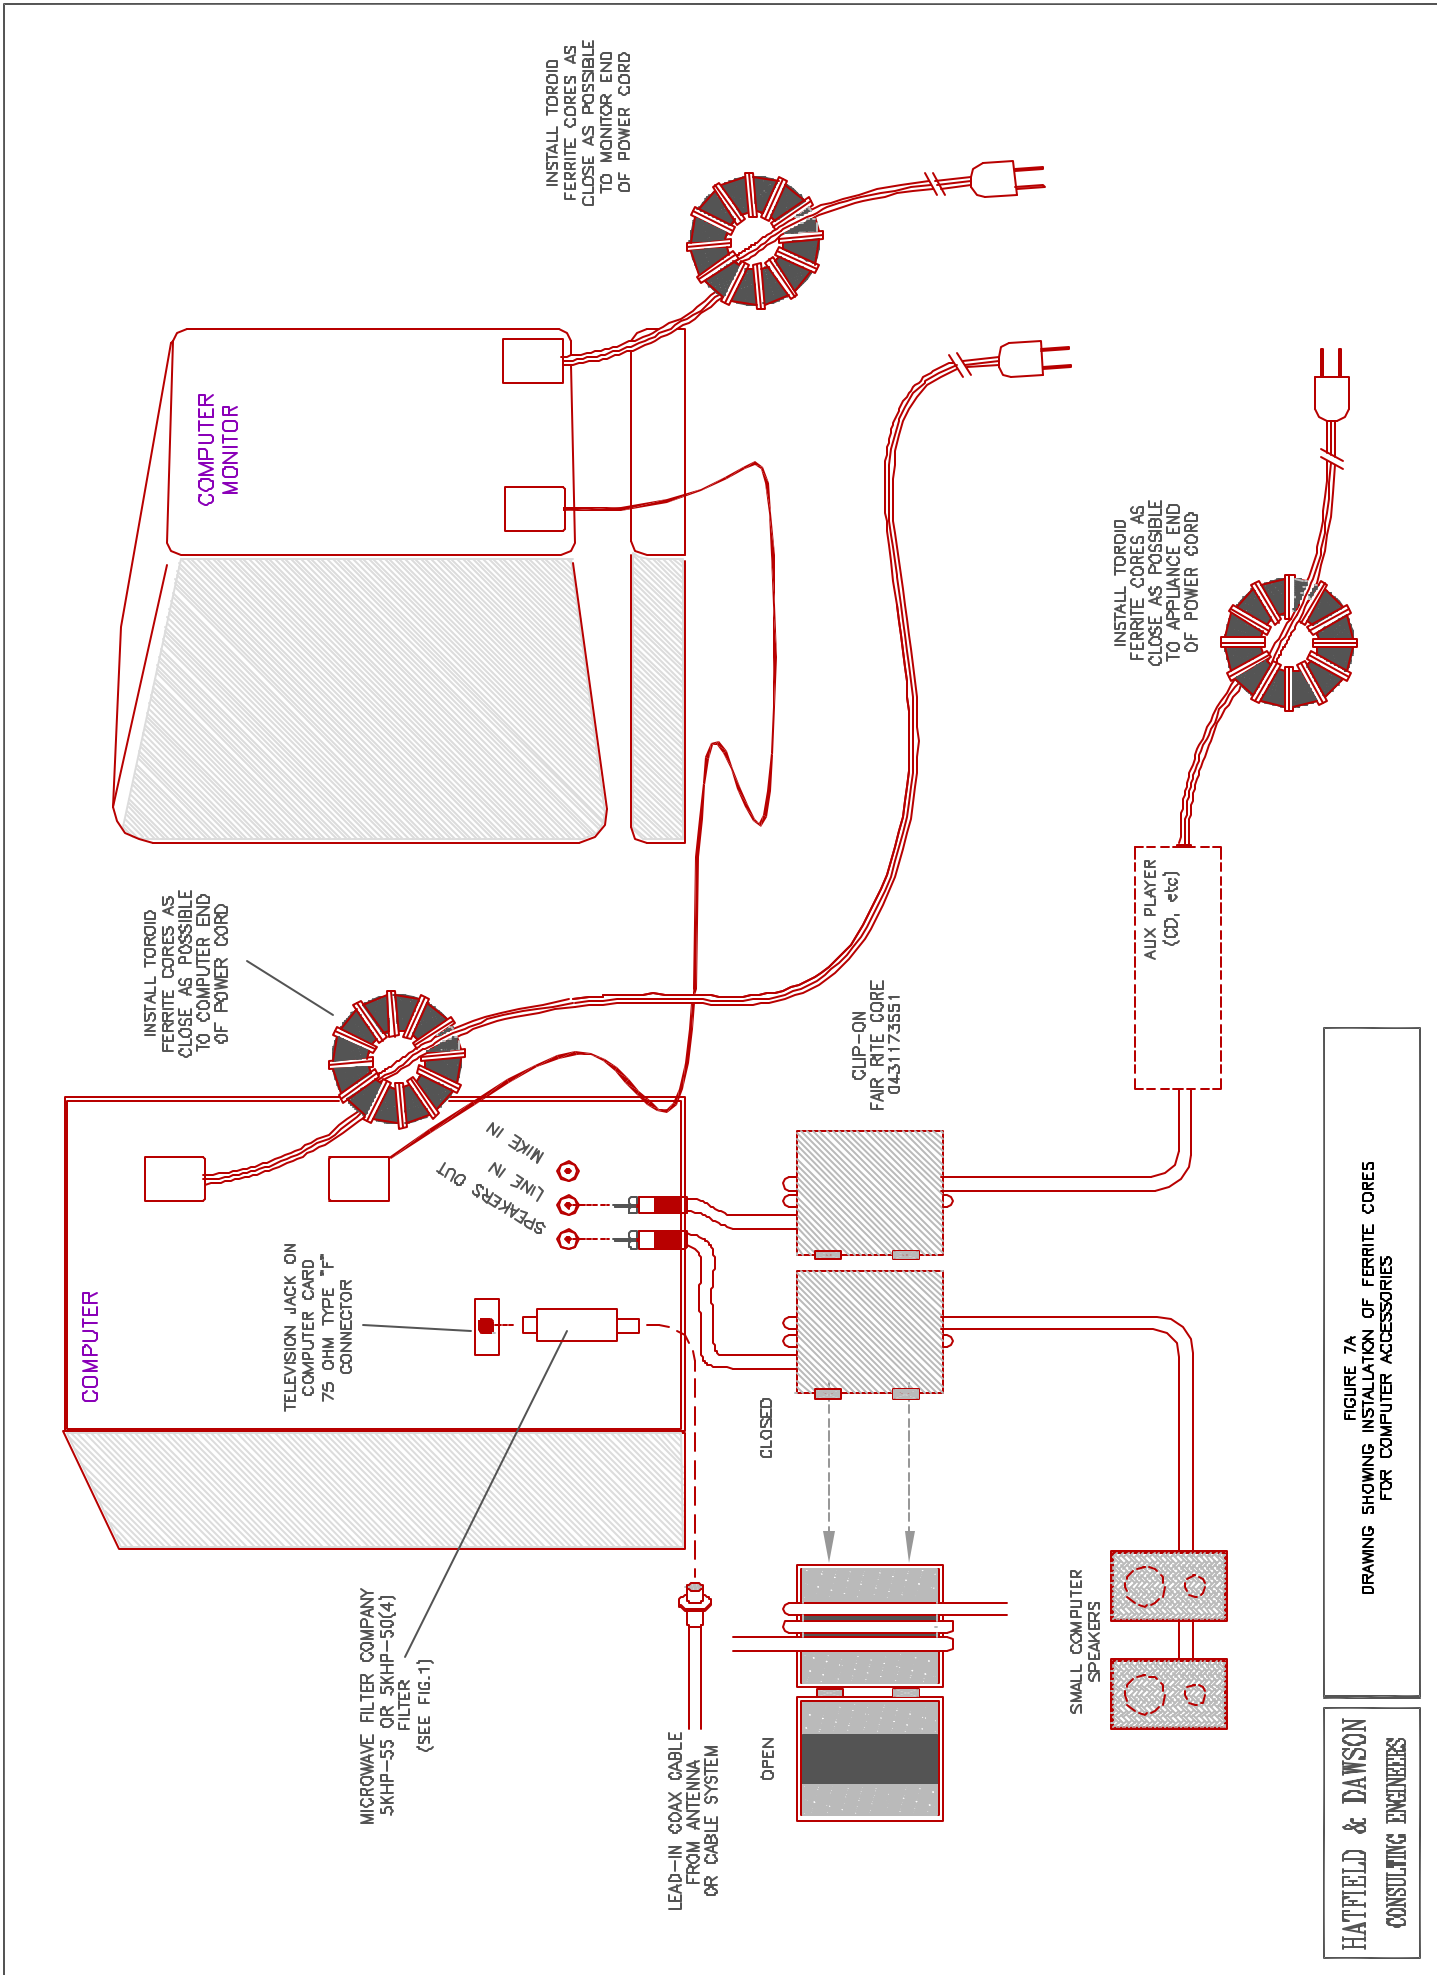

FIGURE 7A
4. Attach a clip-on ferrite core on each of the leads connecting the output of any external unit (tape player, CD player, equalizer, etc.) to the input of the computer sound card as shown in Figure 7A. Install the clip-on ferrite core as close to the input to the sound card as possible, within 1 or 2 inches if possible. Most component stereo systems come with dual connecting cables, with the right and left channels leads separated only at the ends of the cables where the connectors are installed.